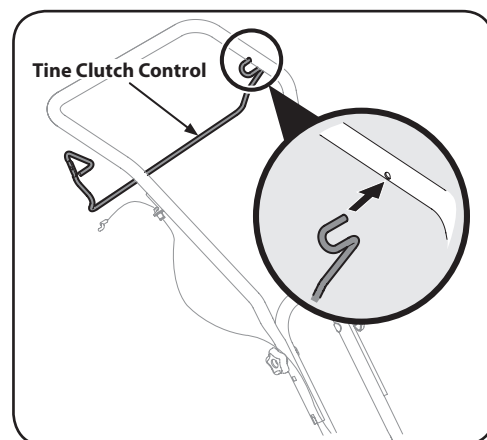

Figure 3-5
4. Insert the left end of the tine clutch control into the hole on the left side of the upper handle. See Figure 3-5.